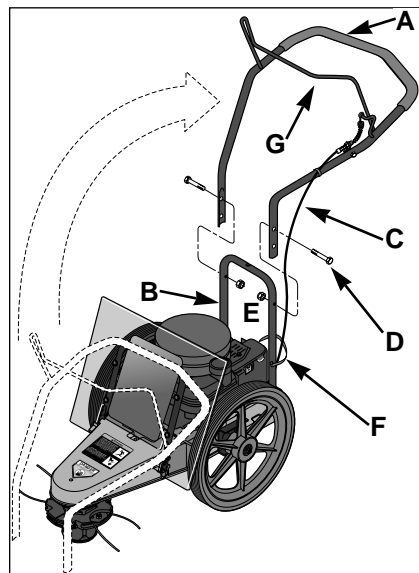

Figure 2-2: Handlebar installation.
A. Cut the plastic tie and remove the tape that secures the control bail (G, Fig. 2-2) to the handlebar (A).
B. Using care not to pinch the attached cable, lift the handlebars (A, Fig. 2-2) to rear of the unit and align the handlebar ends with the handlebar support (B).
C. Route the cable (C, Fig. 2-2) to the outside of the handlebars.
D. Select either the low or high height setting holes (most people prefer the low setting) in the handlebar legs and attach the handlebars with the two screws (D) and locknuts (E) from the hardware bag. Use two 1/2" wrenches.
E. Use the cable tie (F, Fig. 2-2) from the hardware bag to secure cable (C) to handlebar at the location shown.